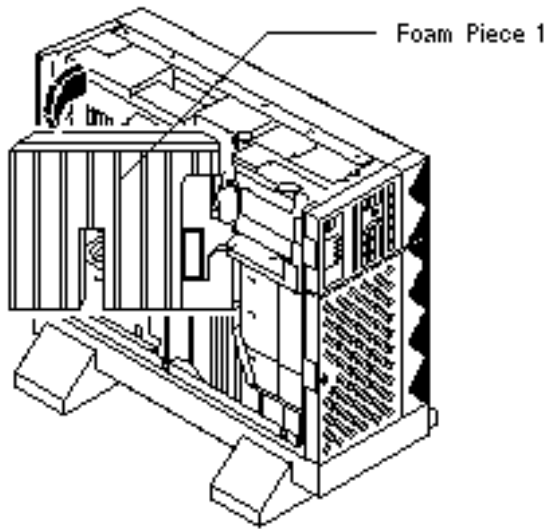

Figure 2-6 Pulling the Left Side of Foam Piece 1
- 5. Pull the left side of Foam Piece 1 out of the chassis (Figure 2-6).**